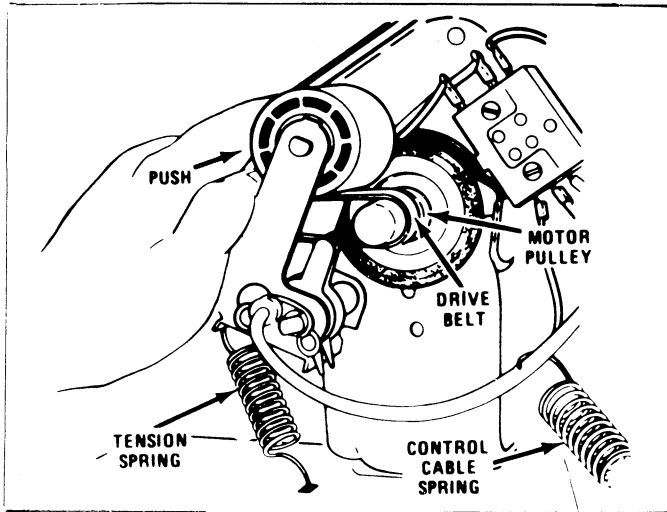

Figure B1
3. Push the idler assembly to the right as shown in *Figure B1*. Holding the idler assembly remove the belt from the pulley on the motor.
When installing the belt to the motor pulley, form a small loop on the belt, then pass the loop between the idler pulley and the base of the idler assembly. Move the idler assembly to the right and place the belt loop over the end of the motor pulley, *Figure B1*.